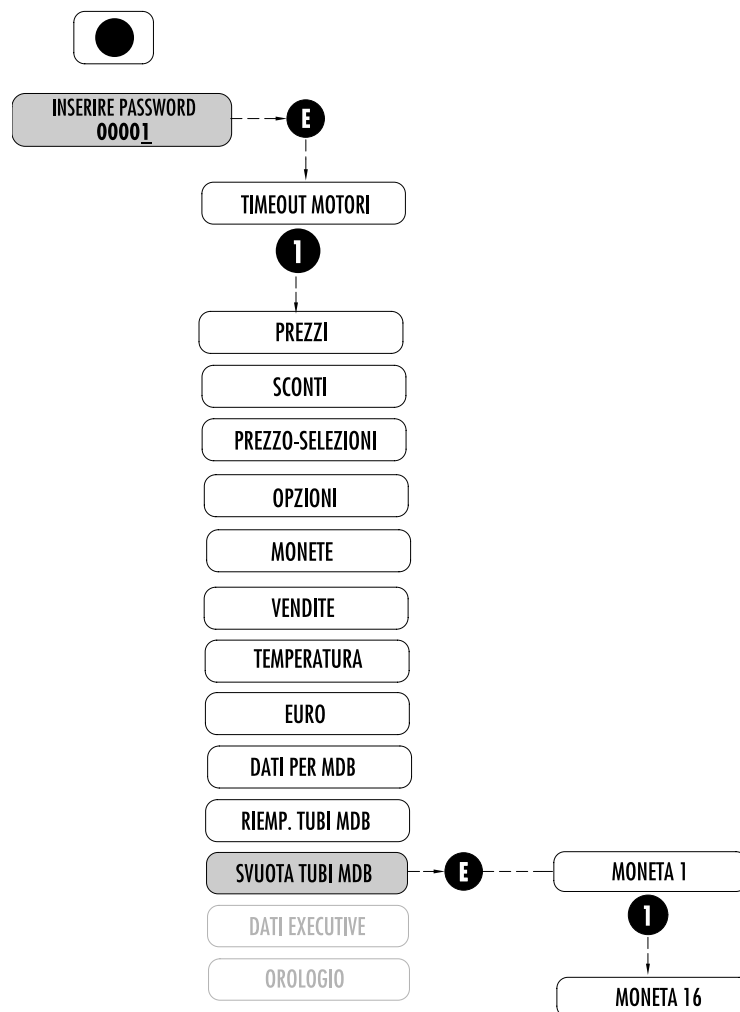

Fig. 7.16
7.2.12 SVUOTA TUBI MDB (Fig. 7.16)